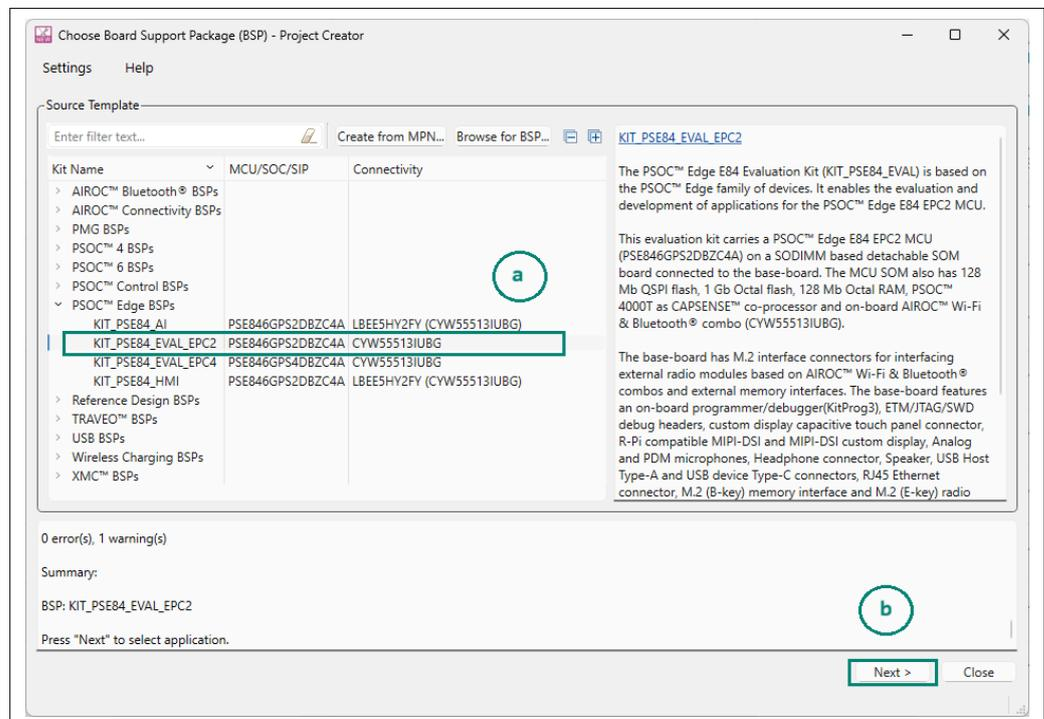

Figure 8 Choose target hardware
- a. In the **Choose Board Support Package (BSP)** dialog, choose the **Kit Name**. For example, choose **KIT_PSE84_EVAL_EPC2**, as shown in Figure 8